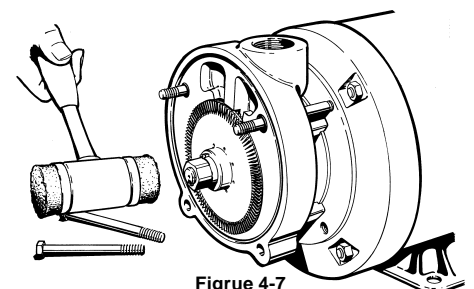

Figure 4-7
- Remove the two (2) 3/8" nuts (#20), and the two (2) 3/8" X 4" bolts (#19) from the cover. (#2)
- Remove the impeller (#11), refer to Figure 4-7. The impeller is a slip fit and, under normal conditions, can be removed by gently tapping on the end of the shaft sleeve with a mallet. Leave the impeller key (#23) in